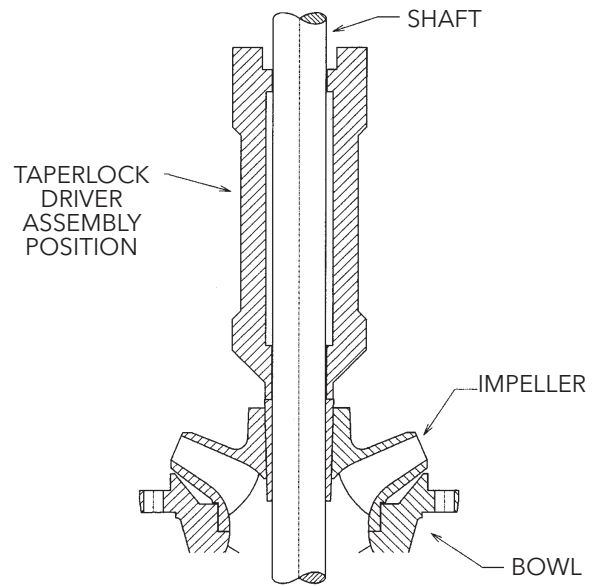

Figure 22
5. Insert a screwdriver into the slot in the taperlock (677) to spread the slot and slide the taperlock over the pump shaft. Hold the impeller against bowl and slide the taperlock into the impeller hub. **Be sure the taperlocks have been cleaned and are dry.**
6. Hold impeller firmly against the suction bowl/bell and drive the taperlock into place with a taperlock driver, (See Figure 22). After the impeller is secured in position, the top end of the taperlock should be 1/8" above the impeller hub.
7. Slide intermediate bowl (670) onto shaft and secure with capscrews provided.